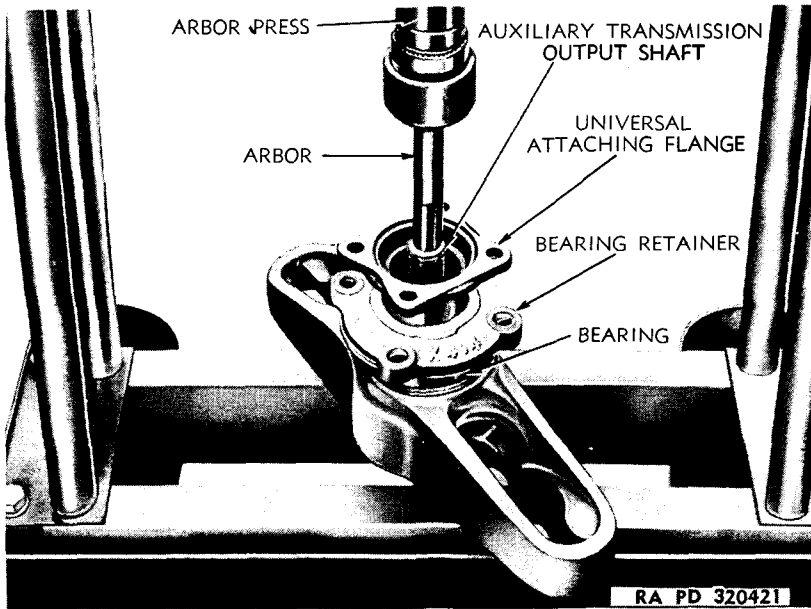
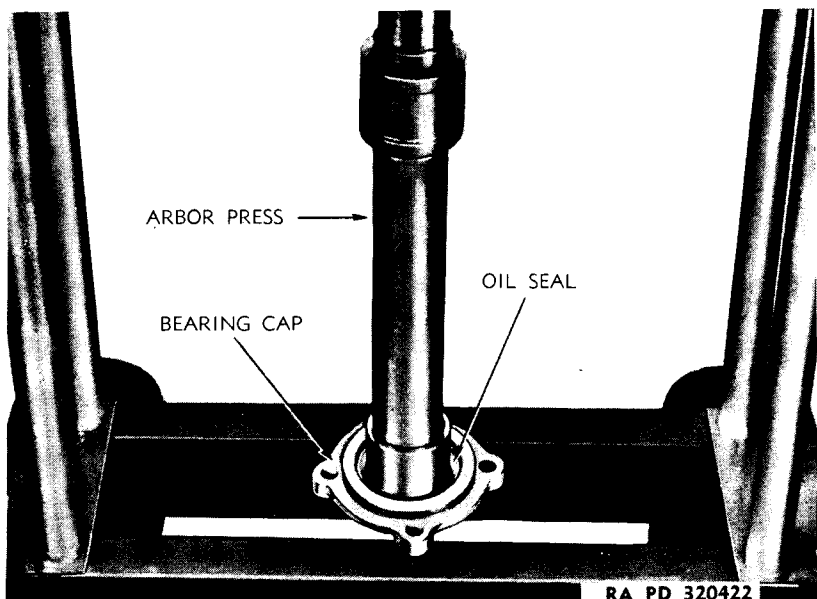

Figure 12 — Pressing Shaft From Bearing and Cap
Figure 13 — Pressing Seal From Bearing Cap
b. Disassemble Rear Cover Assembly. Remove speedometer drive nipple by turning counterclockwise (fig. 11). Pull out speedometer drive shaft. Remove four cap screws holding bearing cap to rear of cover. Tap on splined end of shaft to remove shaft, cap, and bearing assembly. Remove cap gasket. Clamp splines of shaft in soft-jawed vise, and remove special nut by turning counterclockwise. Remove flat washer and oil seal from recess in universal joint flange. Press shaft from cap and flange (fig. 12). Turn cap over and press out oil seal (fig. 13). Press shaft from speedometer gear and bearing.